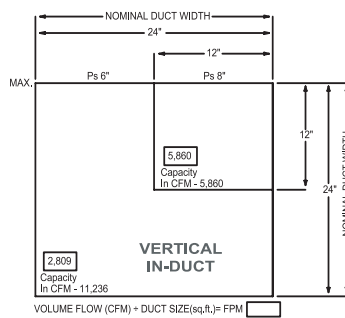

FIGURE 2
Example: A model 151A 24" x 24" is ordered to be installed in a Vertical In-Duct position (see Figure 2, pg. 4). This unit shall be assembled in (1) 24" x 24" section, which according to the table, is rated for an air volume of 11,236 CFM with an air velocity of 2,809 FPM and a static pressure (Ps) of 6" w.g. Therefore, the 24" x 24" unit will have a maximum air volume of no more than 11,236 CFM with an air velocity of 2,809 FPM and a static pressure (Ps) of 6" w.g.